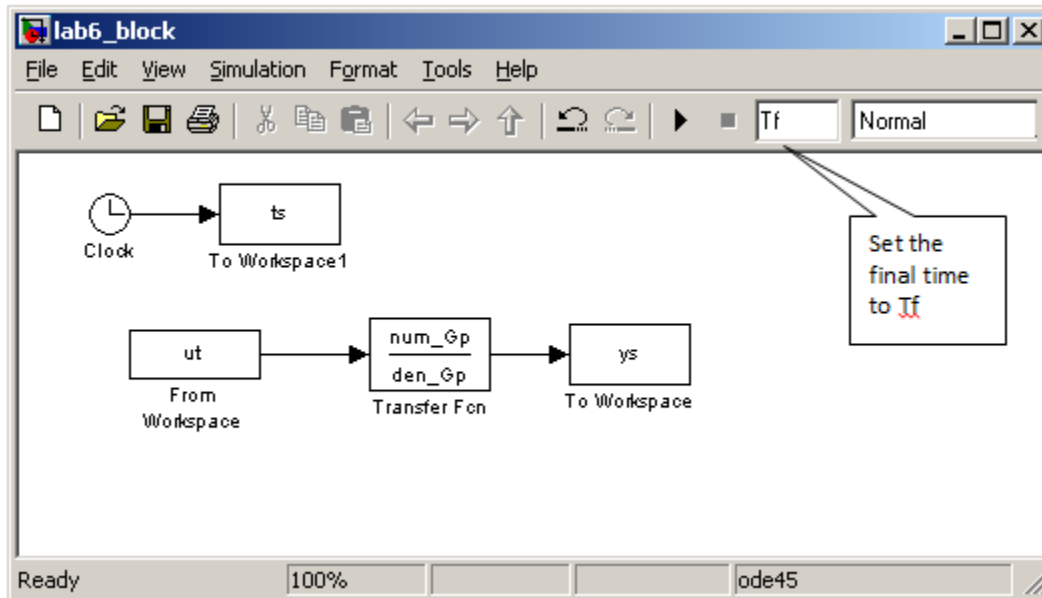

Figure 3: Open Loop Simulink model file
4. Construct the model file shown in Figure 3. You will need to look in the **Sources Library** for the **from workspace** block and the **clock** block
7. Change the final time of the simulation to **Tf** as shown in Figure 3.